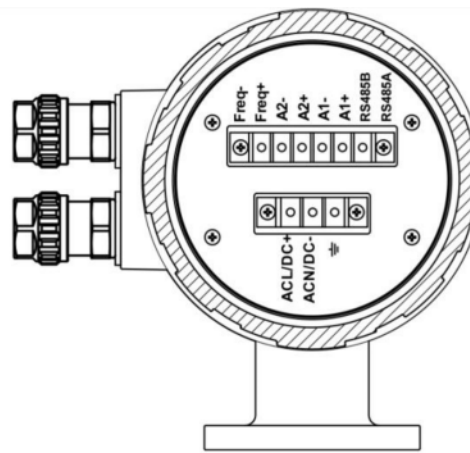

Figure 3-1 T0 version transmitter terminal layout
3.1.2.1 The transmitter’s terminal layout is detailed in Figure 3-1, and the terminal functions are defined by Table 3-1. (Analog Loop 2 is not default option)